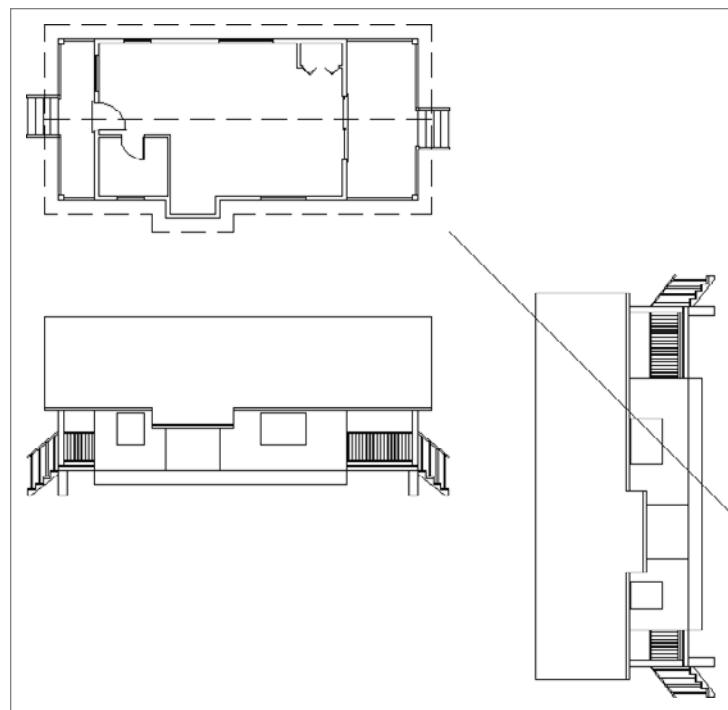

FIGURE 10.48 The copied elevation moved and rotated into place with the view adjusted (bottom)
17. Zoom out and use Zoom Window to adjust the view (see Figure 10.48).